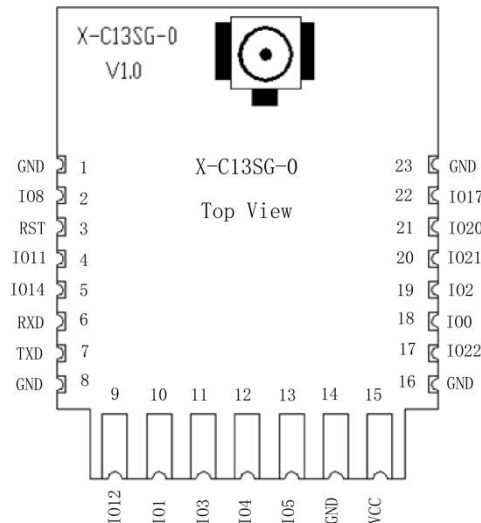

Figure 2. X-C13SG-0 Pin Layout (Top View)
- X-C13SG-0 comes with a connector for an external antenna, please refer to Figure 2.